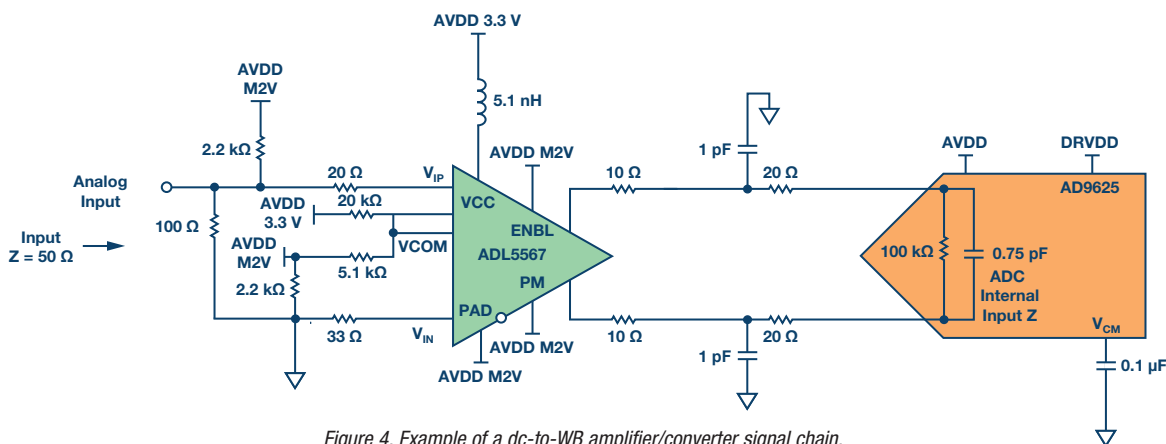

Figure 4. Example of a dc-to-WB amplifier/converter signal chain.
Now that common mode and dc coupling is understood, we can start putting together a signal solution. For example, the ADL5567, which is a dual differential amplifier with 20 dB of gain. It has 4.8 GHz of bandwidth and is suitable for interfacing with GSPS ADCs, like the AD9625 a 12-bit, 2.5 GSPS converter with a JESD204B 8-lane interface. Figure 4 shows the overall block diagram of the setup.
- ▶ The total combination of resistors in series and parallel as seen by the amplifier's outputs should be close to the characterized load (R_L) of the amplifier. In this case, $160\ \Omega$, or $2R_A + 2R_{KB} + R_{ADC} = 20 + 40 + 100$, in the circuit of Figure 4. The ADL5567 was characterized with an R_L of $200\ \Omega$ so expect some deviations in linearity performance if a design moves too far away from the characterized R_L of the amplifier.